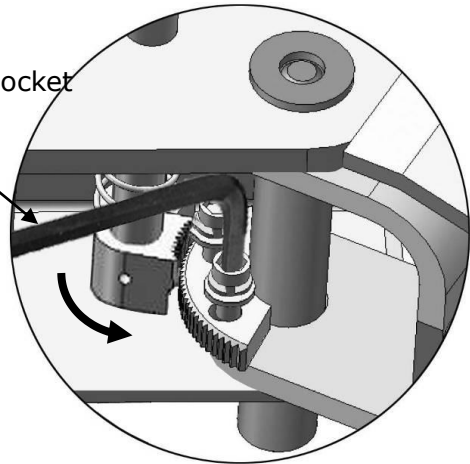

Fig. 35
2. Lower the carriages down to the lowest position, then use an 8mm allen wrench to loosen the socket bolt (**See Fig.35**).